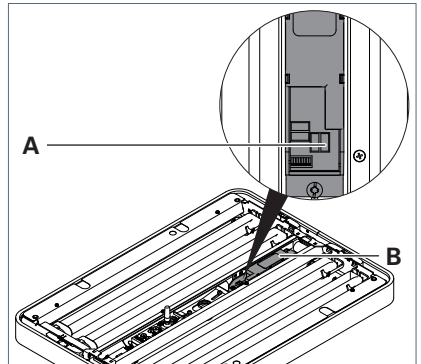

Fig. 8: Interface for dimmable luminaires and luminaires with HFMD sensor
- ▶ For luminaires with **HFMD sensor**: Connect the other end of the connecting line to the interface **A** "R/TxD0" on the luminaire control **B** in the luminaire head, see Fig. 8.
- ▶ With **dimmable** luminaires: Connect the other end of the connecting line to the interface **A** "R/TxD0" on the luminaire control **B** in the luminaire head, see Fig. 8.